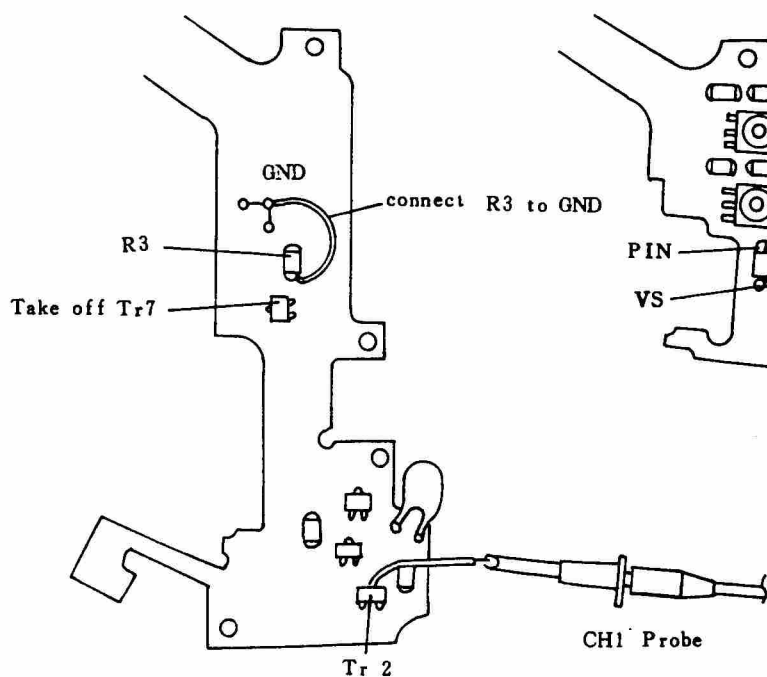

Fig 74
3. Take off Tr7. (Fig 74).
4. Connect R3 (560  $\Omega$ ) directly to GND. (Fig 74).
5. Connect the CH 1 probe to Collector of Tr2. (Fig 74).